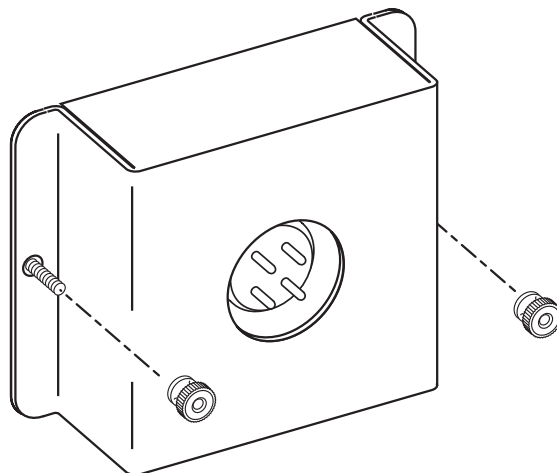

Fig. 6 Reinstall lamp housing.
**REMOTE LAMP HOUSING (Fig.6)**